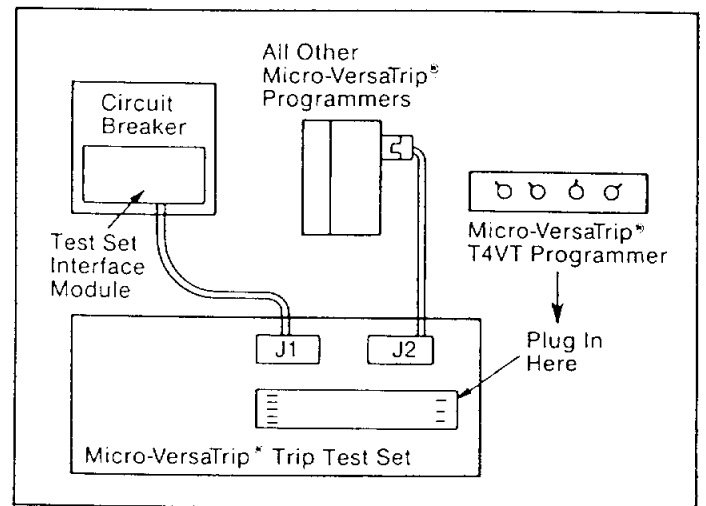

Fig. 5. Connection for "COMPLETE SYSTEM" Test
3. It is not necessary to make any connection to the circuit breaker for "PROGRAMMER ONLY" testing. The Fig. 5 connection must be used if "COMPLETE SYSTEM" tests are to be run.
## "COMPLETE SYSTEM" Test—Mode "2" (See Fig. 5)